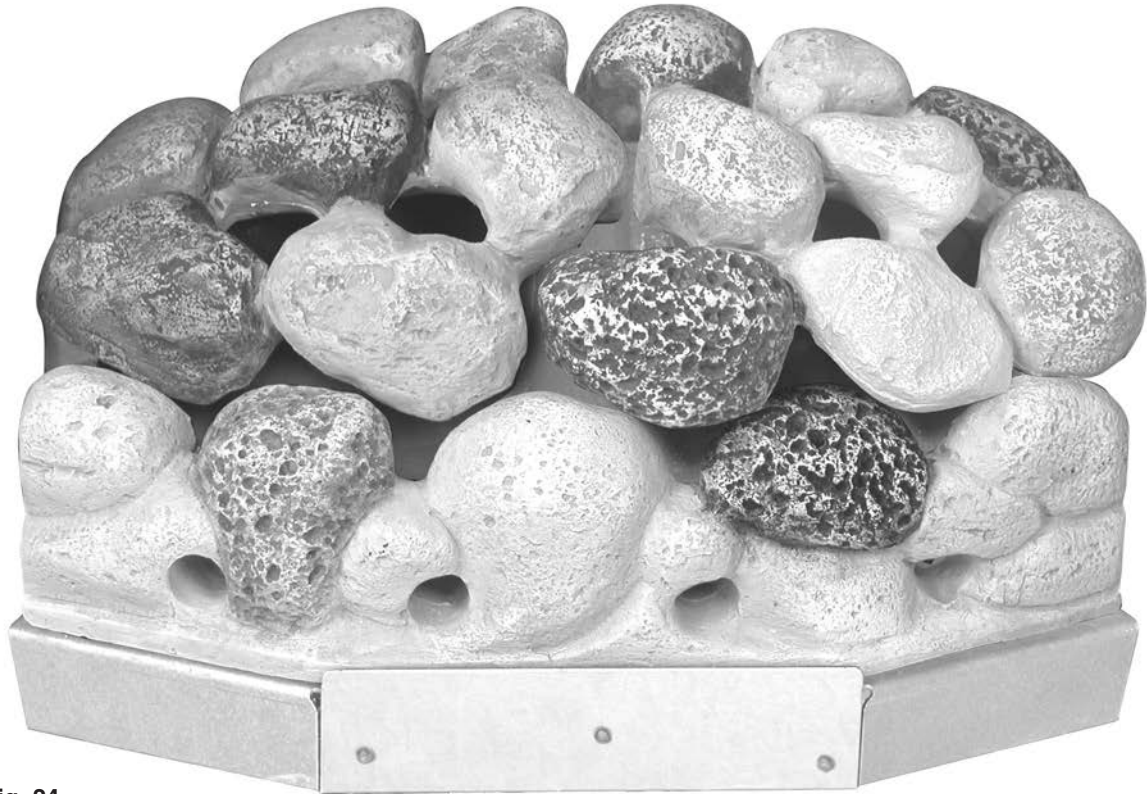

Fig. 24
5. Finally check that all the pebble pieces are 'nested' together correctly (Fig. 24).